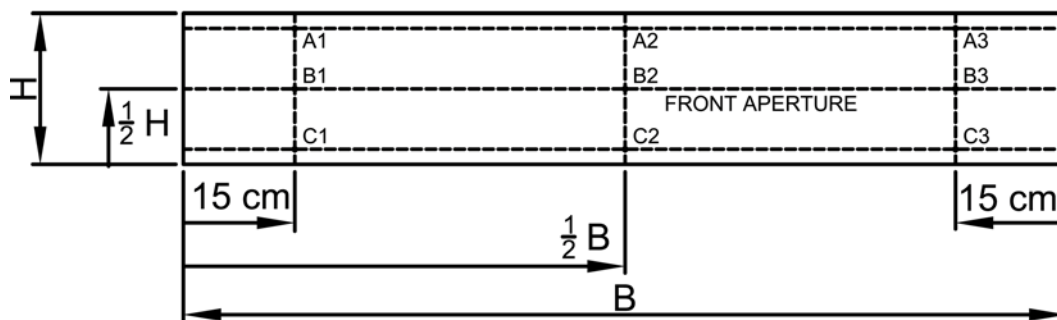

Figure 32 Measuring points inflow
- Measure with an anemometer the average air velocity in the inflow, according to the pattern of Figure 32;